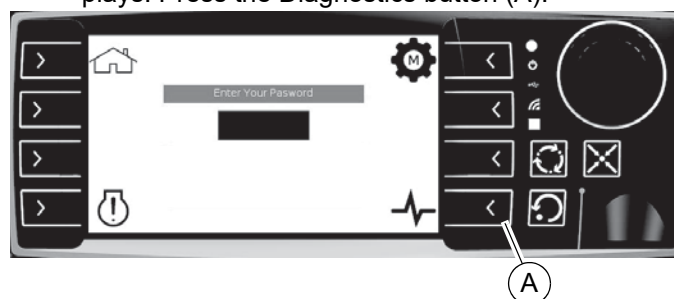

Figure 2-20. Password Prompt Page
2. Press the Diagnostics button (B).
3. See Figure 2-20. The Password Prompt page displays. Press the Diagnostics button (A).